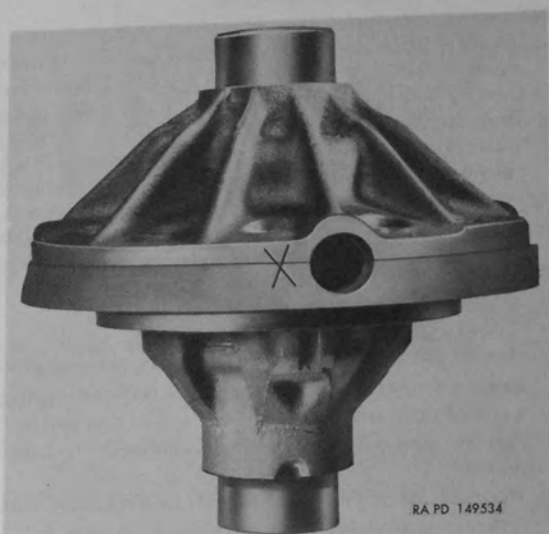

Figure 133. Differential case and cover match marks.
- (1) *Removal of drive gear.*—Determine that a match mark (fig. 133) is clearly visible on case and case cover. If mark is not clearly legible, make a new mark. Stand assembly on end to prevent damage to differential side bearings. Loosen and remove twelve $\frac{1}{2}$ -20 x $1\frac{1}{8}$ cap screws (W) and $\frac{1}{2}$ -inch lock washers (X) attaching drive gear (C) to case (L); then remove drive gear.
- (2) *Separate Differential Case and Cover.*—Tap lightly with soft hammer to separate case cover (S) from case (L); then remove side gears (N), thrust washers (M) and (P), spider pinions (Q), and spider (R).
- (3) *Removal of differential side bearings.*
- (1) *Installation of spider pinion and side gears.*—Clean inside of case and case cover thoroughly and lubricate all parts. Install new thrust washer (M) in case cover with side having oil grooves toward case cover; then install side gear (N) in case cover. Install spider pinion (Q) and new thrust washer (P) over each arm of spider (R); then install spider and pinion assembly over side gear previously installed. Install remaining side gear (N) and new thrust washer (M) over spider. Position case (L) over previously assembled parts, being sure that match marks are in alignment (fig. 133).